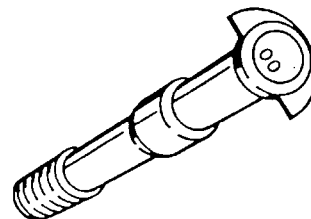

Figure 2
- B. Tightening procedure for old version bolts with 00 marking on bolt head (Figure 2).